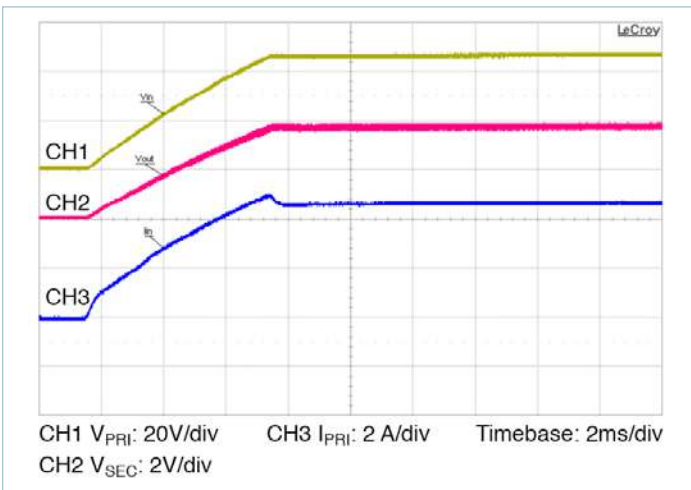

Figure 13 — Start up from application of  $V_{PRI}$ ;  $V_C$  pre-applied  $C_{SEC} = 9100\mu$ F
- Normal operation (VC applied prior to the source voltage): In this case, the controller is active prior to the source ramping. When the source voltage is applied, the VTM module load voltage will track the source (See Figure 13). The inrush current is determined by the source voltage rate of rise and load capacitance. If the VC voltage is removed prior to the primary voltage reaching 26V, the VTM may shut down.